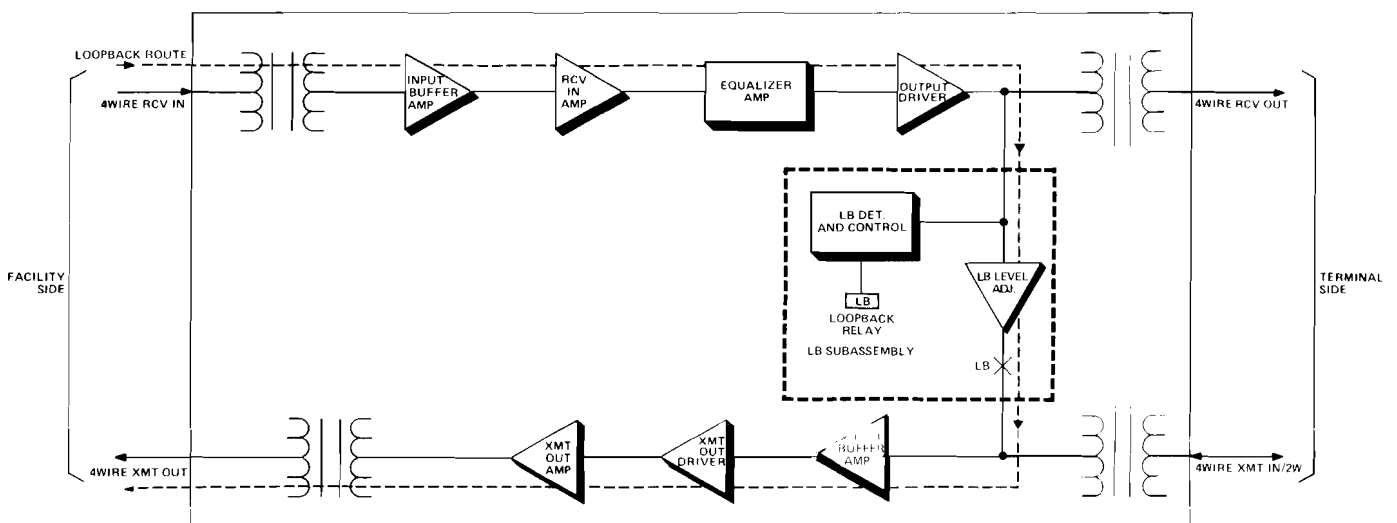

figure 6. Loopback route through 6044A
2.13 Integral facility-side loopback circuitry in the 6044A allows signals at the 4wire receive input port to be looped back to the 4wire transmit output port for testing of both the module and the facility. Figure 6 shows the loopback path through the module. Prescription loopback-level-control circuitry introduces from 0 to 23dB of loss or gain into the loopback path in switch-selectable increments (23dB loss; 0.5, 1.5, 3, 6, and 12dB gain) to provide true equal-level loopback. The terminal equipment can, if desired, be busied out via switch option to prevent inadvertent seizure of the trunk or line circuit. This option can be used with DX1 signaling and Type I E&M interface only. In these applications, the option busies out the terminal equipment by grounding the E lead.
3.06 Five option switches must be set before the 6044A can be placed into service. The location of each switch on the module's printed circuit board is shown in figure 6. Switch designations are indicated adjacent to each switch.